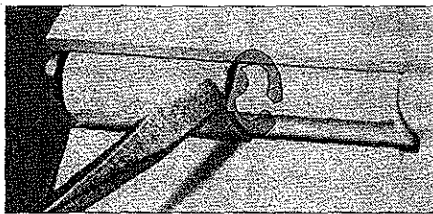

Figure 7
3. Remove the hinge pins which connect the display assembly to the Monitor enclosure. Each hinge pin has an e-style snap ring mounted on it. The snap ring must be removed in order to pull out the hinge pin. The snap ring must be oriented properly, as illustrated in Figure 7 in order to remove it. If the snap ring is not properly oriented, rotate it into correct position by using a small flathead screwdriver.